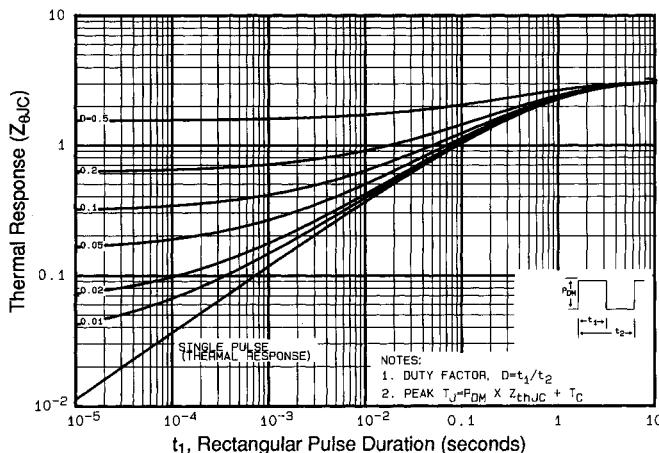

Fig 11. Maximum Effective Transient Thermal Impedance, Junction-to-Case
① Repetitive rating; pulse width limited by max. junction temperature (See Figure 11)
③ $I_{SD}\leq 10\text{A}$, $di/dt\leq 120\text{A}/\mu\text{s}$, $V_{DD}\leq V_{(\text{BR})\text{DSS}}$, $T_J\leq 150^\circ\text{C}$
⑤ $t=60\text{s}$, $f=60\text{Hz}$
② $V_{DD}=50\text{V}$, starting $T_J=25^\circ\text{C}$, $L=23\text{mH}$